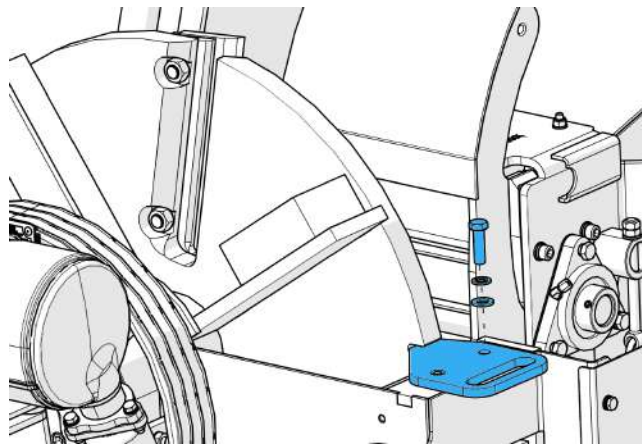

Figure 56 - Installing the flywheel locking tool
6. Turn the flywheel until it is in the locking position (Figure 56).
7. Insert the flywheel locking tool into the groove on the flywheel. The groove becomes visible once the wheel is in the correct position (Figure 56).